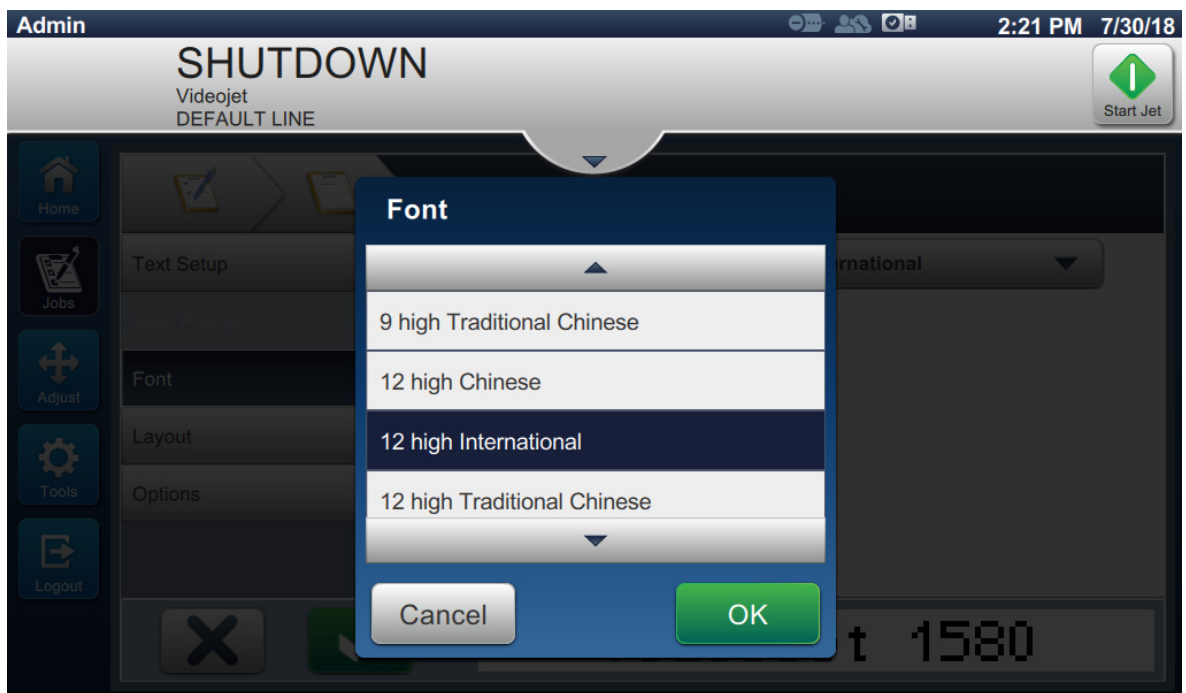

Figure 5-16: Font Size Input Screen
8. Touch the *Font* button and select "12 High International" from the drop down list as shown in Figure 5-16. Touch the  button.
20. Touch the *Font* button and select “12 High International” from the drop down list as shown in Figure 5-16. Touch the  button.
28. Touch the *Font* button and select “12 High International” from the drop down list as shown in Figure 5-16. Touch the  button.